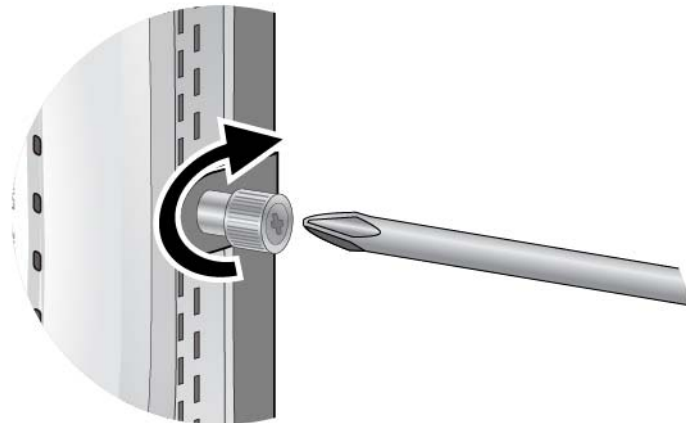

Figure 21. Securing the Wireless Access Point
4. Tighten the thumbscrew on the TQ bracket to secure the wireless access point. Refer to Figure 21.